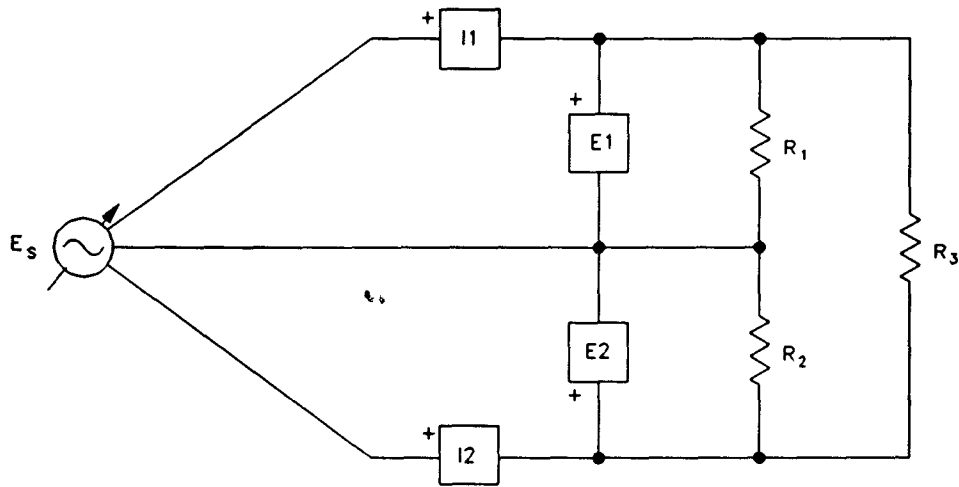

Figure 6-16. Total Power Measurement using Two-Wattmeter Method.
27. Reconnect the circuit as shown in Figure 6-16 to measure the total load power using the two-wattmeter method.